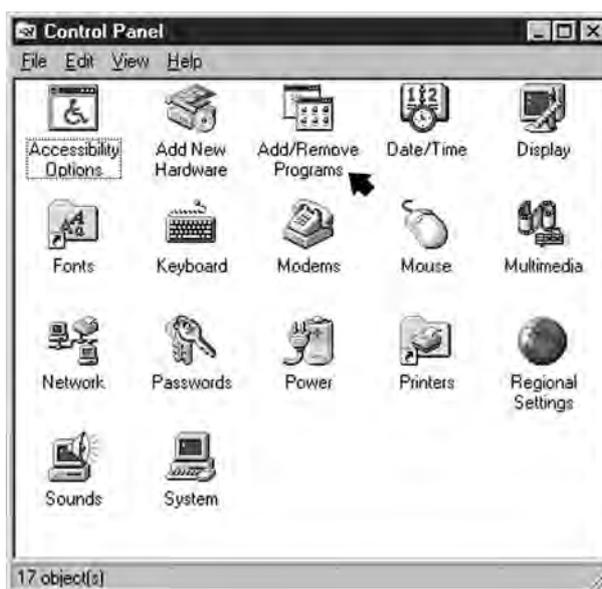

Fig. 134
3. In the Control Panel dialog box, double-click **Add/Remove Programs**. (Fig. 134)